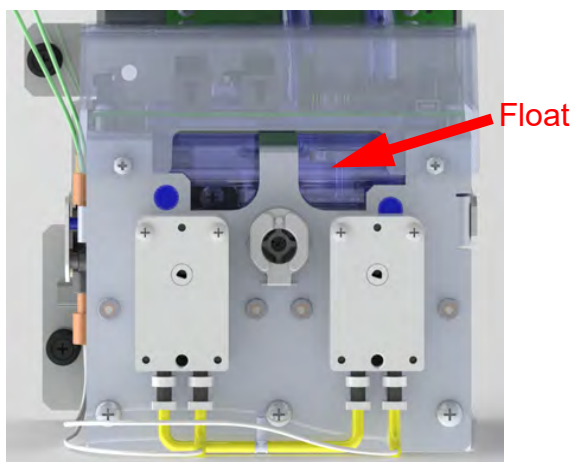

Figure 56: Water Reservoir with Float
NOTE: The float should be just below the top of the reservoir. Do not overfill (Figure 56).
8. Verify that the water line is **just below** the top of the reservoir (Figure 56). Add water as needed. See “To fill the DI water reservoir” on page 262).